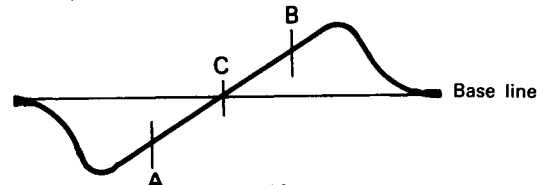

Fig.13
5. Use the T202 core to form the S-curve shown in Fig. 13. Adjust the symmetry of A and B about point C for linearity.